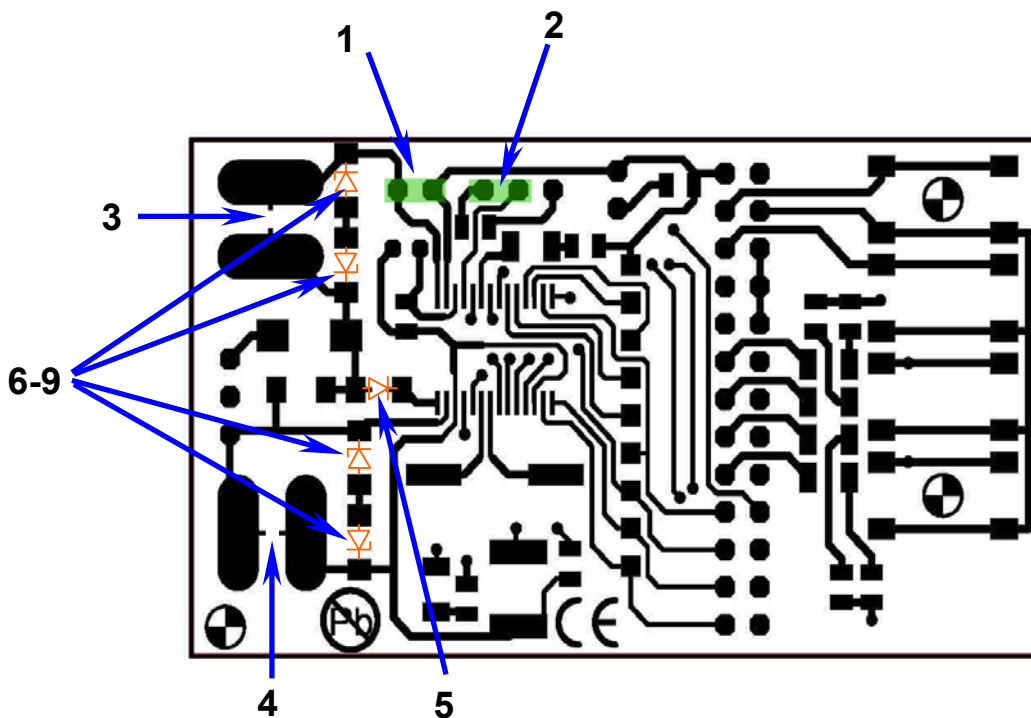

Figure 9: ASI4U Evaluation Board Top Layer and changes for standard application with external inductor
Figure 9: ASI4U Evaluation Board Top Layer and changes for standard application with external inductor.....	9
- | | Refer to Mark in Figure 9 |